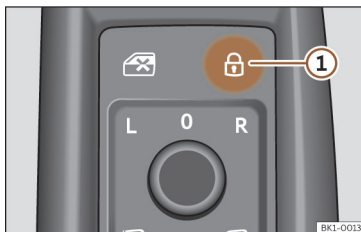

Fig. 63 On the driver's door: central locking switch
- Lock: press the  button >>> Fig. 63.
- Unlock: Press the  button again >>> Fig. 63.